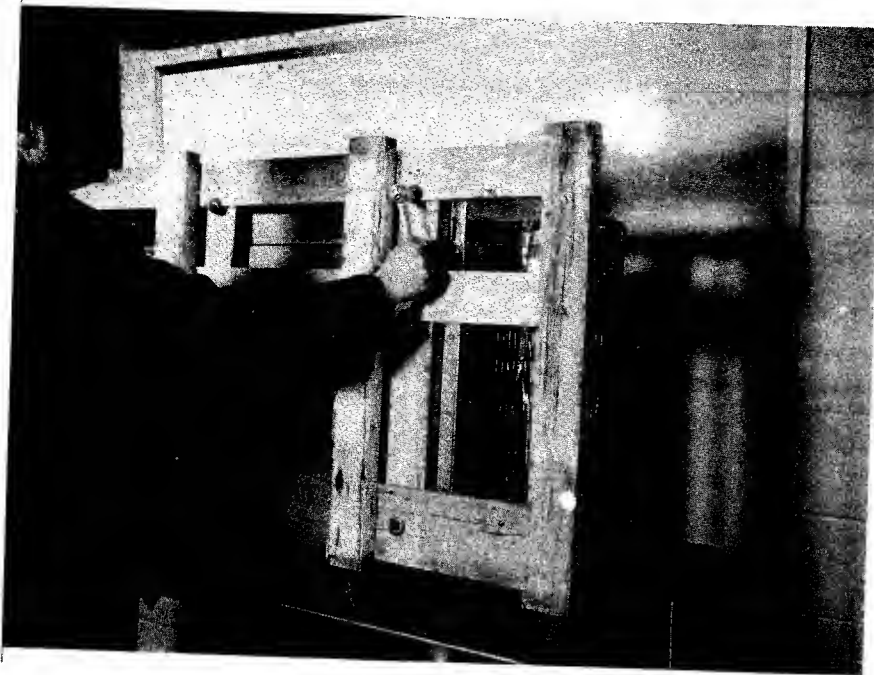

Figure 2-2
Lay the oven on its front side then remove the four (4) bolts attaching wooden skid to bottom of oven (Figure 2-2).